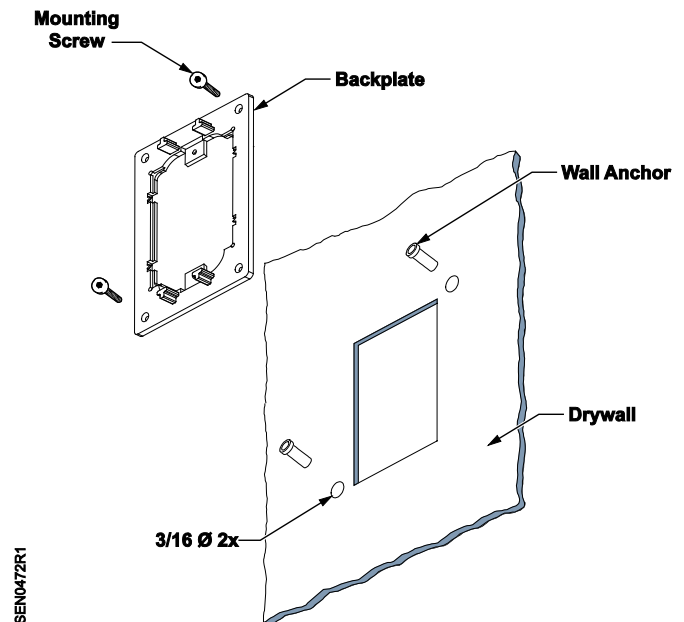

Figure 1. Drywall Mounting.
1. Place the backplate in the up position "↑" level on the wall and trace inside to make roughly a 2-1/16" x 3-1/2" rectangle. See Figure 1.
6. Mount the backplate on the wall making note the up arrow "↑" on the plate with the mounting screws. See Figure 1.